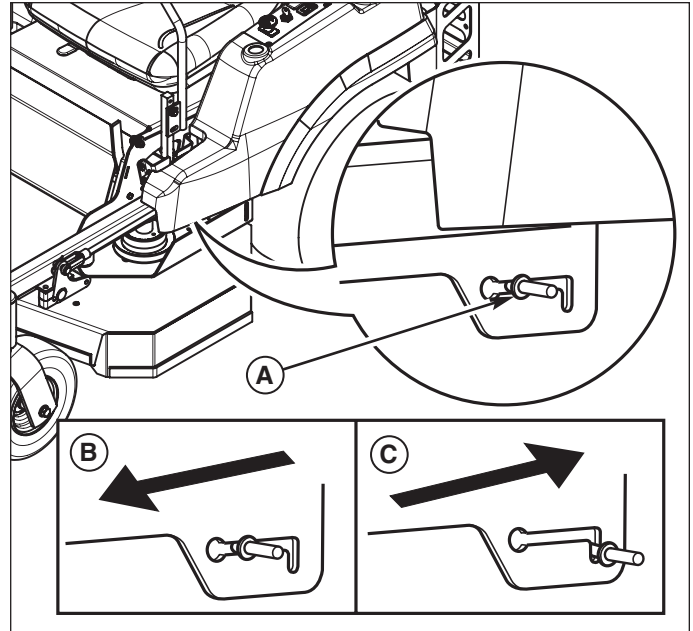

Figure 1. Transmission Release Levers (LH shown)
3. Pull both transmission release levers (A, Figure 1) back and then down to lock the transmission release levers in the disengaged (free-wheel) position (C).
6. After moving the tractor, re-engage the transmissions by pulling the transmission release levers up and forward to the engaged (drive) position (B).